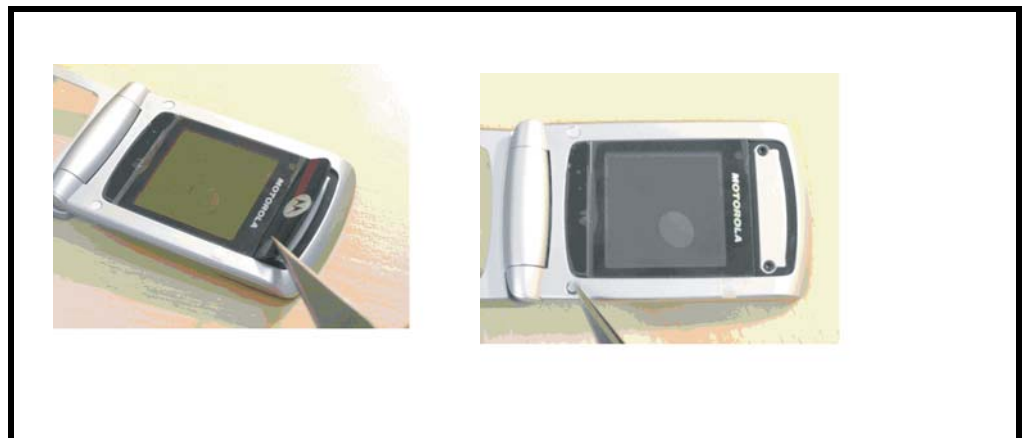

Figure 25. Removing the Screw Cover & Cap
2. Remove the Screw Cover & Cap from Housing B with a tweezer as shown in Figure 25.